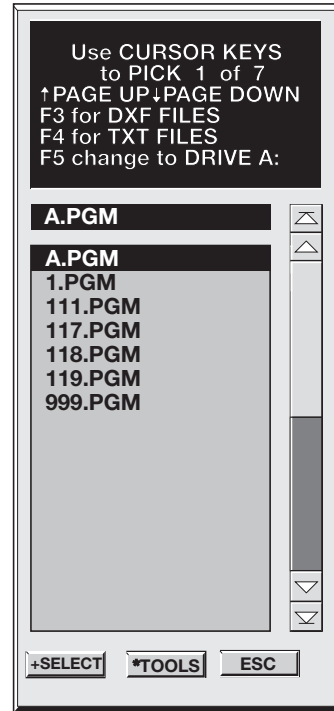
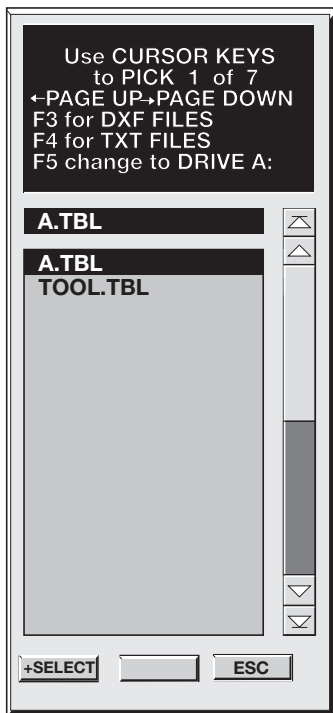
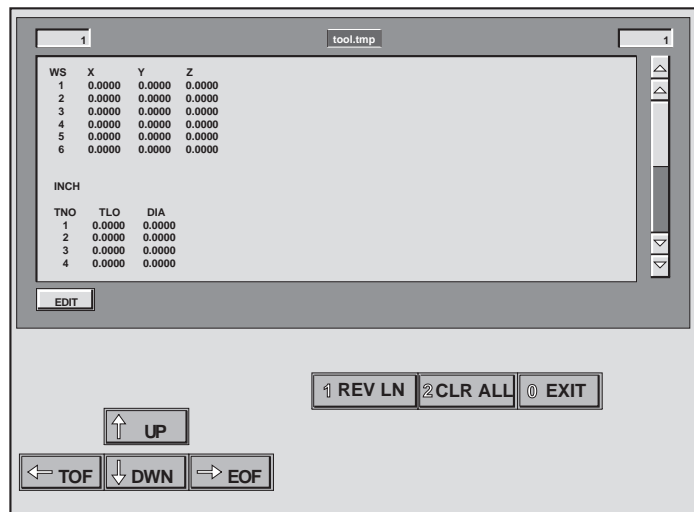

Figure G-5: Press * to access the Tool Library.
Figure G-6
Figure G-7: Tool Library
To access the Tool Library from the Main Operating Screen, press the 5 key (5 EDIT). Figure G-5 will be displayed. By selecting the * key (* TOOLS), you can access the tool file in the list box shown as Figure G-6. You can then access the tool and workshift lists in Figure G-7.